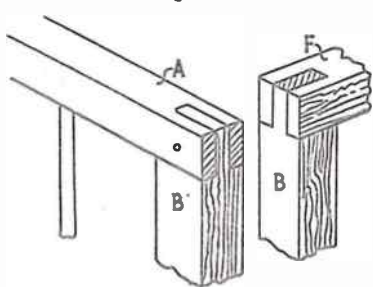

Fig. 3
The pieces (A) can be simply placed on the top of the pieces (B) and secured by glue and a countersunk screw, or they can be jointed as shown in Fig. 3. In this case a screw should be inserted at